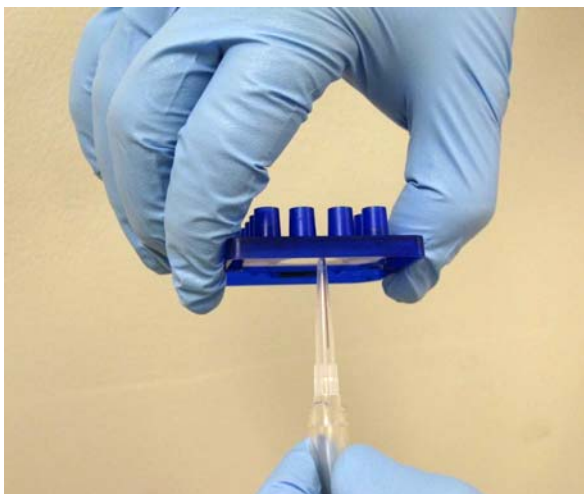

Figure 19. Removing an air bubble or clog by suctioning the sipper with a vacuum line.
- If air bubbles are not dislodged after a reprime, apply a vacuum to the sipper. Perform this by filling all active wells with 100 µL of Chip Storage Buffer. Then suction the sipper with a vacuum line as shown in Figure 19 until droplets of fluid flow out from the sipper. When suctioning the sipper, be careful not to bend or break the sipper. To facilitate this, cut the end of the pipette tip attached to the vacuum line to widen the mouth.